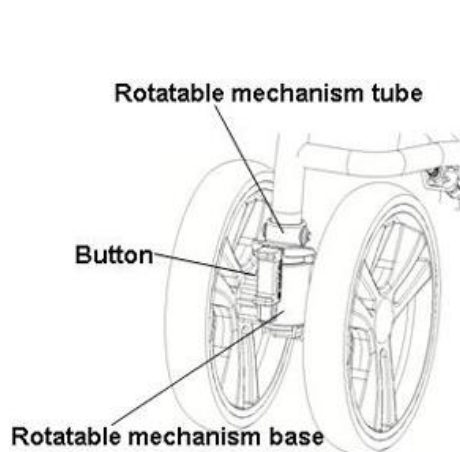

Figure 4
1. When the directional lock button is lifted upward and secured into the fixed tube, the front wheels are locked, as shown in Figure 4.